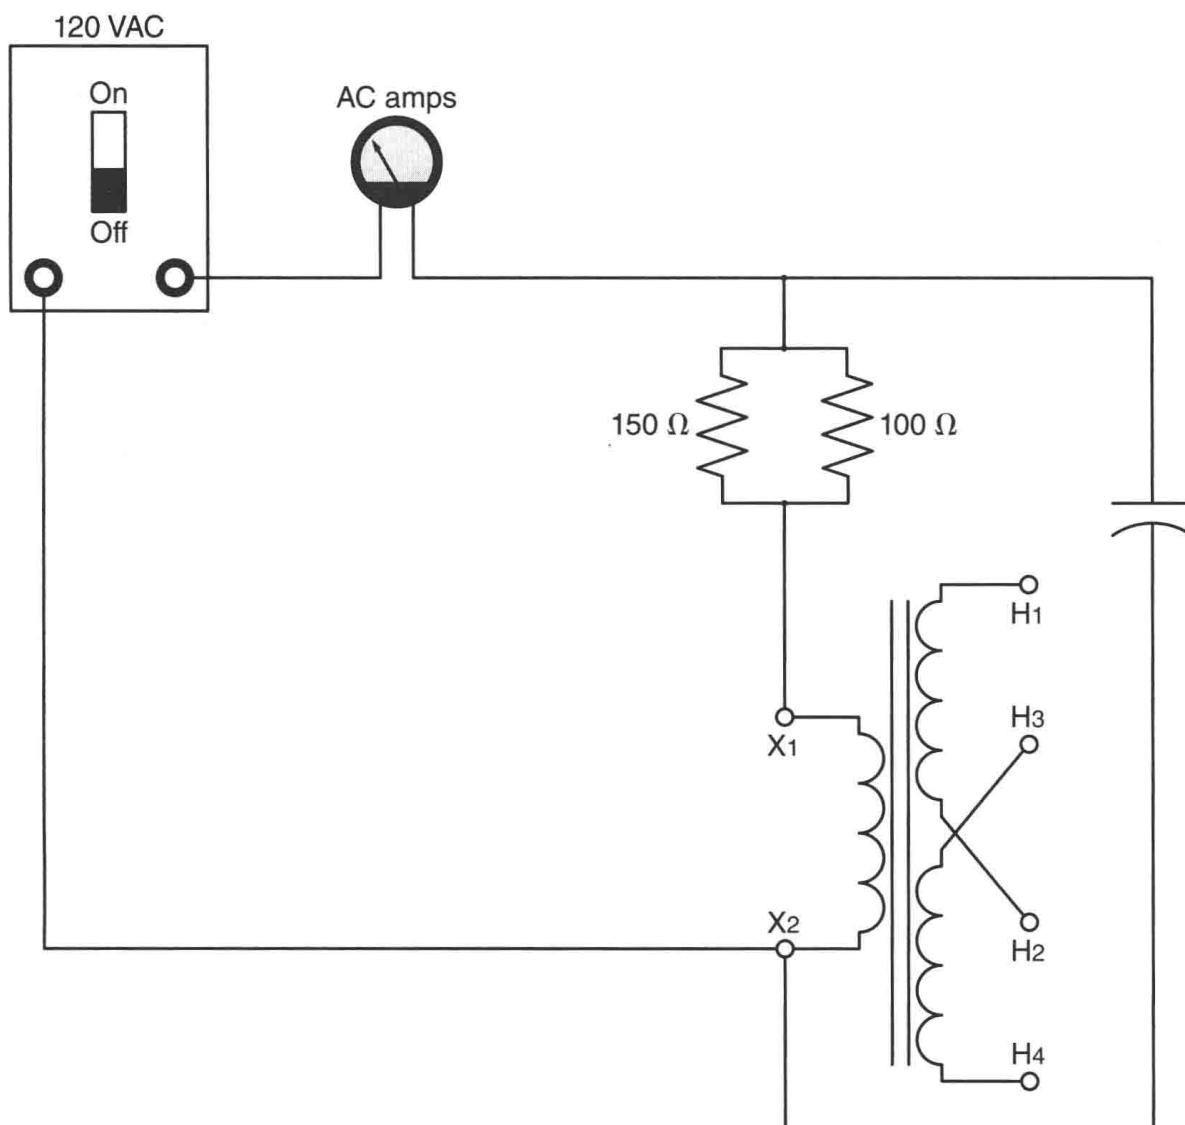

Figure 18-2 Adding capacitance to the circuit.
16. From the capacitors provided in this experiment, select the capacitor that is the nearest value to the capacitor value determined in step 16. Do not go over the computed value. Connect the capacitor across the circuit as shown in Figure 18-2.